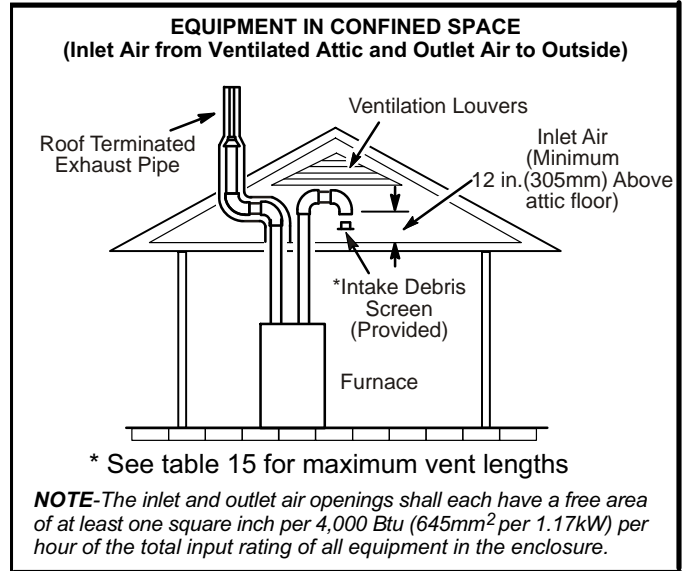
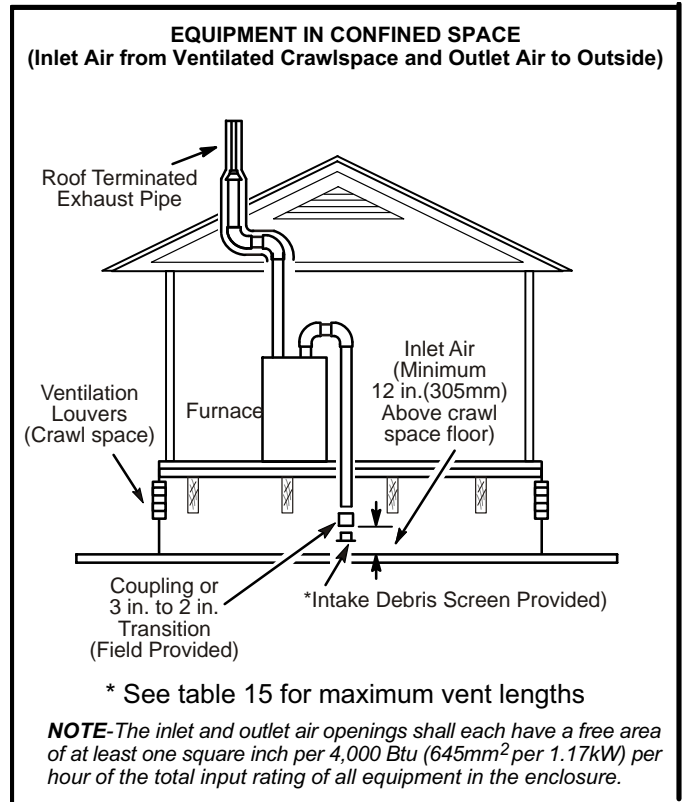

FIGURE 29
FIGURE 30
- 2 - If intake air is drawn from a ventilated attic (figure 29) or ventilated crawlspace (figure 30) the exhaust vent length must not exceed those listed in table 15. If 3" diameter pipe is used, reduce to 2" diameter pipe at the termination point to accommodate the debris screen.